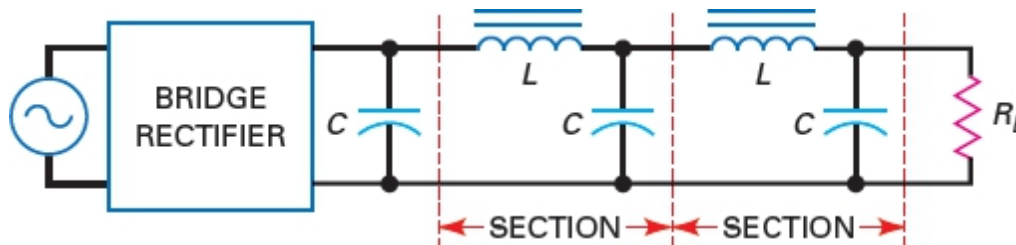

Figure-68 LC Filtering
- When the load current is large, the **LC** filters of Figure-68 are an improvement over **RC** filters. Again, the idea is to drop the ripple across the series components, in this case, the inductors. By making X_L much greater than X_C , we can reduce the ripple to a very low level.